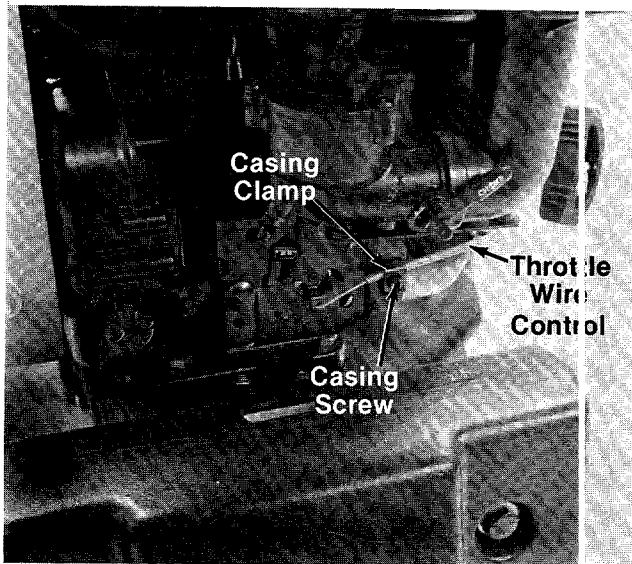

FIGURE 28.
2. Loosen the casing clamp screw and move the throttle control wire in as far as possible. See figure 28.